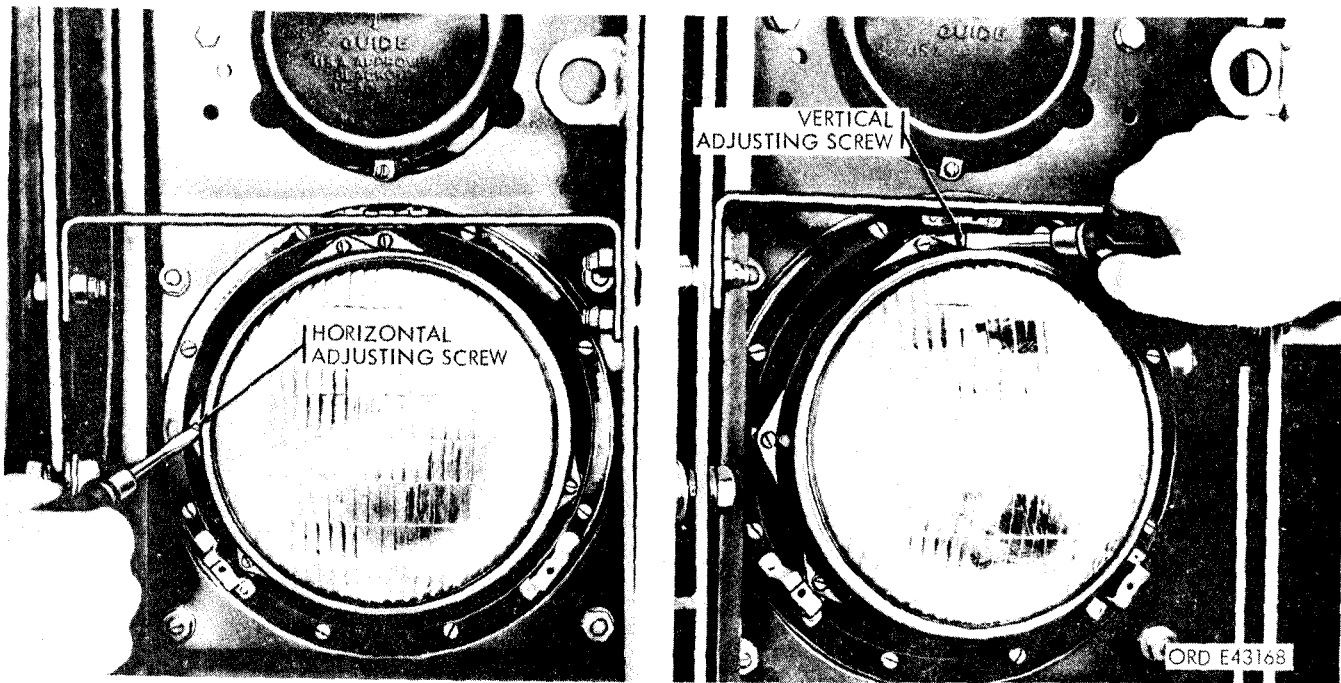

Figure 2-156. Adjusting headlight.
(1) Headlight beam direction is changed by two lamp-unit adjusting screws located behind the holes in the rim; one at the top and one on the side (fig. 2-156). Turn the top adjusting screw to change the direction of the beam vertically, and turn the side adjusting screw to change the direction horizontally. Adjust the lights as detailed below.
(2) Place the unloaded vehicle on a smooth level surface so that the headlights are 25 feet away from a vertical wall or other vertical surface. The centerline of the vehicle must be at right angles to the vertical surface. Use the headlight aiming